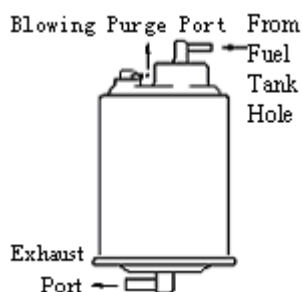

Figure 110
1. Plug the exhaust hole. See (Figure 110).